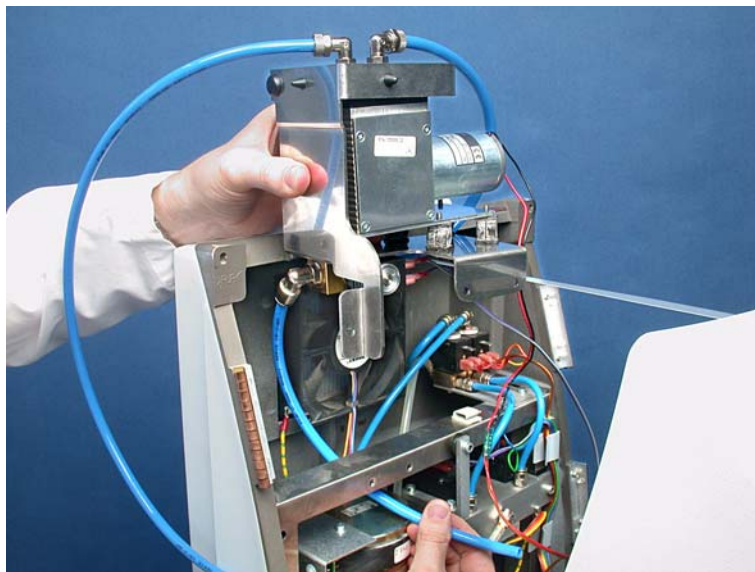

Figure 11-172. Removing the nebulizer compressor
9. Remove the compressor. (Figure 11-172.)